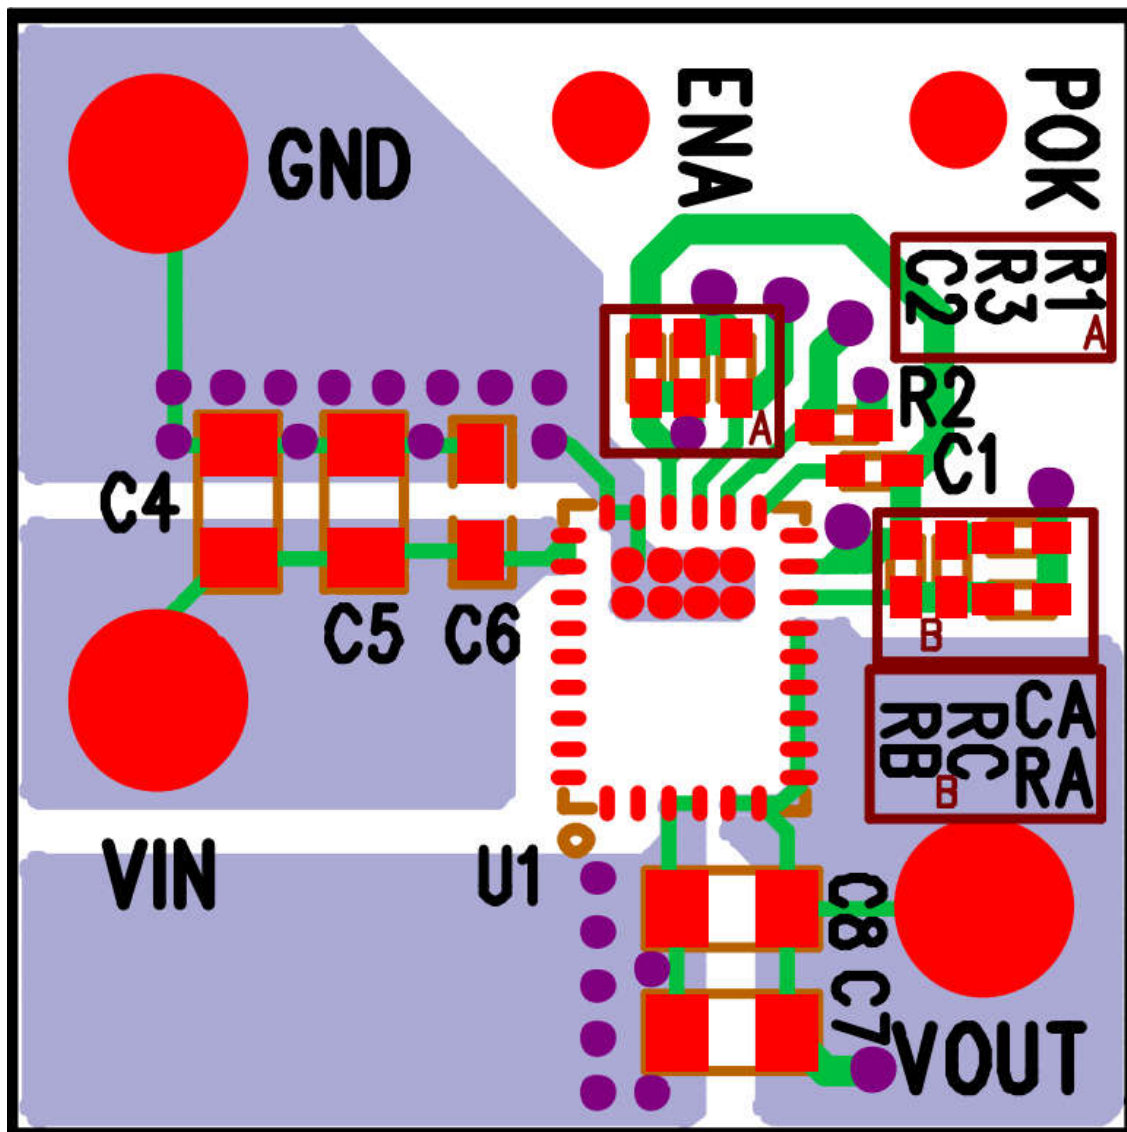

Figure 8: Drop-In Board Layout Recommendations
**Recommendation 3:** The large thermal pad underneath the component must be connected to the system ground plane through as many vias as possible. The drill diameter of the vias should be 0.33mm, and the vias must have at least 1 oz. copper plating on the inside wall, making the finished hole size around 0.20-0.26mm. Do not use thermal reliefs or spokes to connect the vias to the ground plane. This connection provides the path for heat dissipation from the converter. See Figure 8.
**Recommendation 4:** Multiple small vias (the same size as the thermal via discussed in recommendation 3) should be used to connect ground terminal of the input capacitor and output capacitors to the system ground plane. It is preferred to put these vias under the capacitors along the edge of the GND copper closest to the +V copper. Please see Figure 8. These vias connect the input/output filter capacitors to the GND plane, and help reduce parasitic inductances in the input and output current loops. If the vias cannot be placed under  $C_{IN}$  and  $C_{OUT}$ , then put them just outside the capacitors along the GND slit separating the two components. Do not use thermal reliefs or spokes to connect these vias to the ground plane. AVIN is the power supply for the internal small-signal control circuits. It should be connected to the input voltage at a quiet point. A good location is to place the AVIN connection on the source side of the input capacitor, away from the PVIN pins.
**Recommendation 6:** The layer 1 metal under the device must not be more than shown in Figure 8. See the section regarding exposed metal on bottom of package. As with any switch-mode DC/DC converter, try not to run sensitive signal or control lines underneath the converter package on other layers.